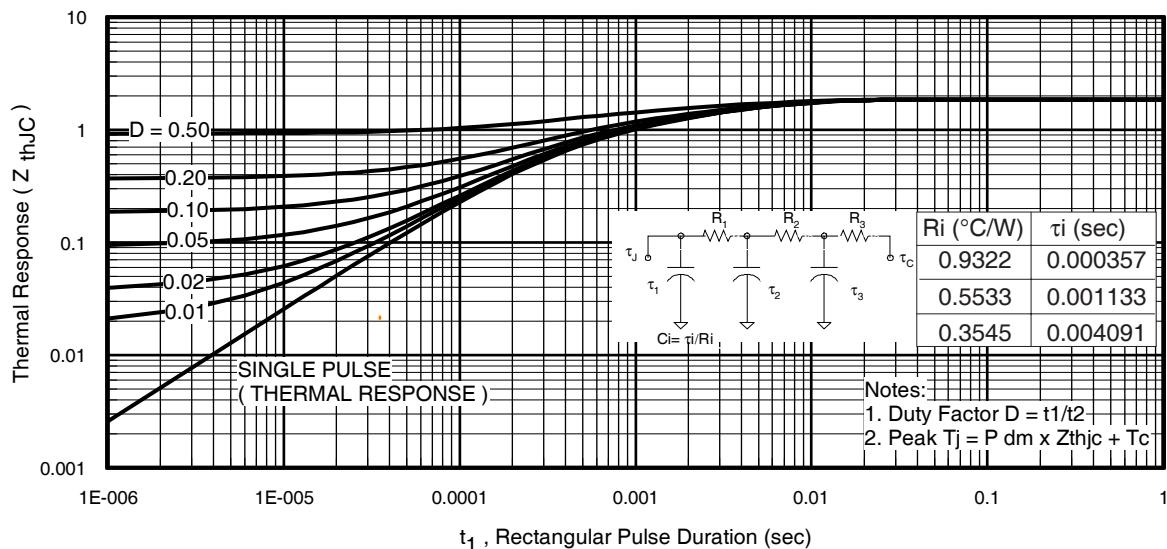
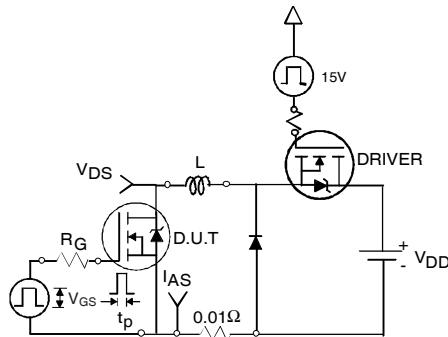

Fig 11. Maximum Effective Transient Thermal Impedance, Junction-to-Case
Fig 12a. Unclamped Inductive Test Circuit
- ① Repetitive rating; pulse width limited by max. junction temperature. (See fig. 11).
- ② Limited by $T_{J\max}$, starting $T_J = 25^\circ\text{C}$, $L = 0.13\text{mH}$, $R_G = 25\Omega$, $I_{AS} = 31\text{A}$, $V_{GS} = 10V$. Part not recommended for use above this value.
- ③ $I_{SD} \leq 31\text{A}$, $dI/dt \leq 1070\text{A}/\mu\text{s}$, $V_{DD} \leq V_{(\text{BR})\text{DSS}}$, $T_J \leq 175^\circ\text{C}$.
- ④ Pulse width $\leq 1.0\text{ms}$; duty cycle $\leq 2\%$.
- ⑤ $C_{oss \text{ eff.}}$ is a fixed capacitance that gives the same charging time as C_{oss} while V_{DS} is rising from 0 to 80% V_{DSS} .
- ⑥ Limited by $T_{J\max}$, see Fig.12a, 12b, 15, 16 for typical repetitive avalanche performance.
- ⑦ This value determined from sample failure population. 100% tested to this value in production.
- ⑧ This is applied to D²Pak, when mounted on 1" square PCB (FR-4 or G-10 Material). For recommended footprint and soldering techniques refer to application note #AN-994.
3. Equation below based on circuit and waveforms shown in Figures 12a, 12b.
$Z_{thJC}(D, t_{av})$ = Transient thermal resistance, see figure 11)